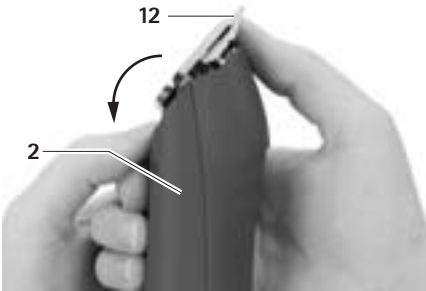

Fig. 4
- Fold forward blade **12**, see Fig. 4.